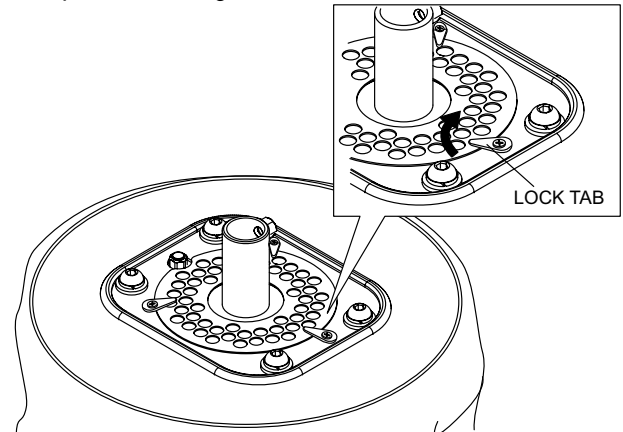

Figure 32. Locking Air Plate
6. Turn the three locking tabs inwards to lock the air plate in place. See Figure 32.